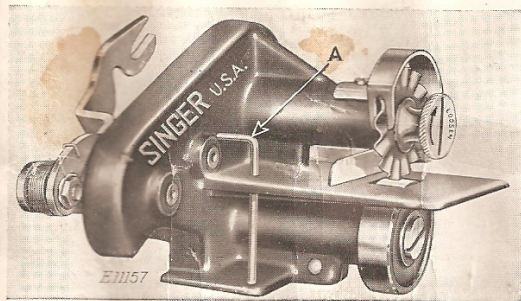
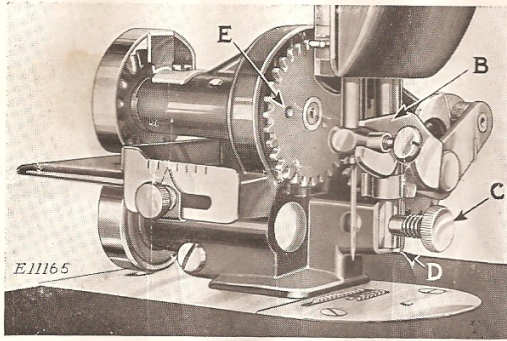

Fig. 1. Rear View of Pinking Attachment
Fig. 2. Attachment Fastened to the Machine
Remove the presser foot and thumb screw from the presser bar of the sewing machine. Raise the presser bar and place the Pinking Attachment in position from the rear with the driving lever fork (B, Fig. 2) engaging the needle clamp, as shown at left. Raise the attachment until the stop (D, Fig. 2) bears against (touches) the lower end of the presser bar. Insert the thumb screw (C, Fig. 2) in the hole in the presser bar and firmly tighten it, then lower the presser bar.
Loosen the clamp screw (G, Fig. 4) and turn the eccentric spindle (H, Fig. 4) to relieve the pressure of the roller against the cutter. Remove the wire (A, Fig. 1) from the hole in the frame and pass the wire through the hole (E, Fig. 2) in the gear and turn the gear until the end of the wire bears against the side of one of the ribs in the frame. This will prevent the cutter shaft from turning. Remove the thumb nut (J, Fig. 4) by turning it with a screwdriver in a "clockwise" direction as indicated by the arrow on the thumb nut, then remove the cutter. When replacing the cutter, see that the pin in the inside washer enters the hole in the cutter. When replacing the thumb nut (J), turn it in a "counter-clockwise" direction and securely tighten with a screwdriver. Restore the pressure of the roller against the cutter by turning the eccentric spindle (H, Fig. 4), then tighten the clamp screw (G, Fig. 4). *Before operating the Pinker, be sure to remove the wire (A) from the gear and replace it in the hole in the frame, as shown in Fig. 1.*